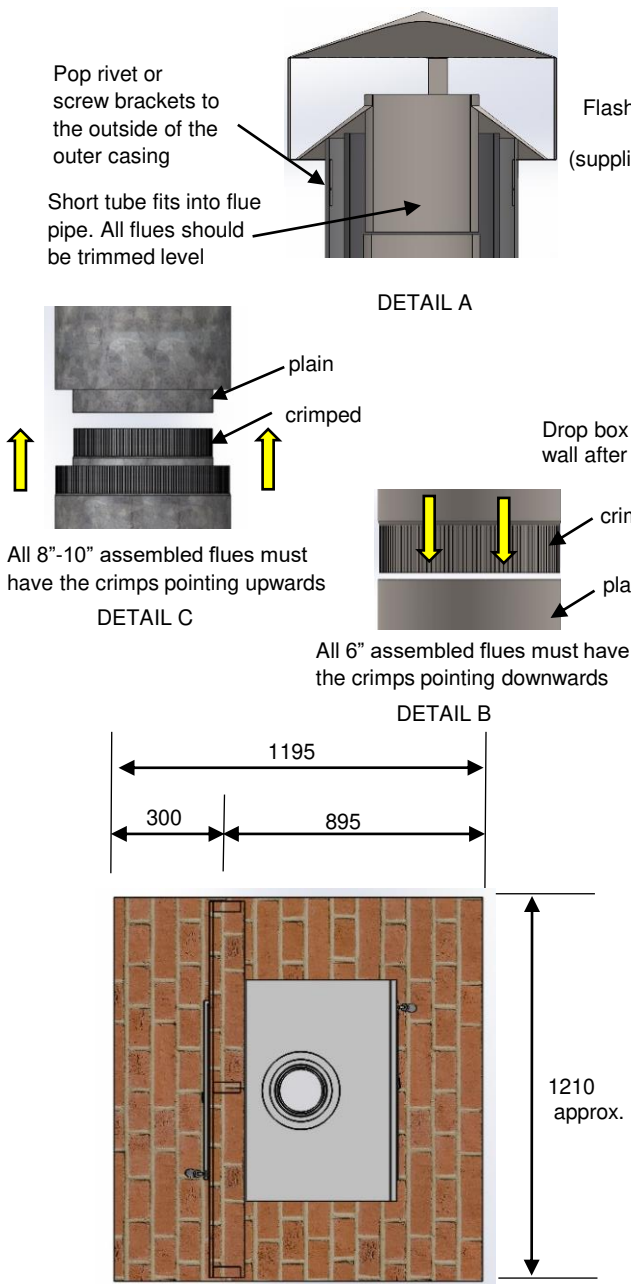

Fig. 1
3. If the floor is wooden secure a 1200mm x 1200mm piece of A C sheet to the floor as per figure 1. this should protrude 370mm from centre line of wall flush side and 830mm from centre line on free standing side.
4. Lay bricks on A C sheet as per figure 1. This will give correct size hearths on both sides of the wall. If floor is cement then tiles or slate may be used instead of bricks.
6. Lay masonry as per figure 2. with normal bricks there will be approx. 45mm gap between end of brick & inside vertical face of surround. This may be filled with mortar (figure 1). Adjust mortar so that 9th course finishes level with inside horizontal flat section of surround. Finish brick work in normal way using surround as lintel (figure 2).